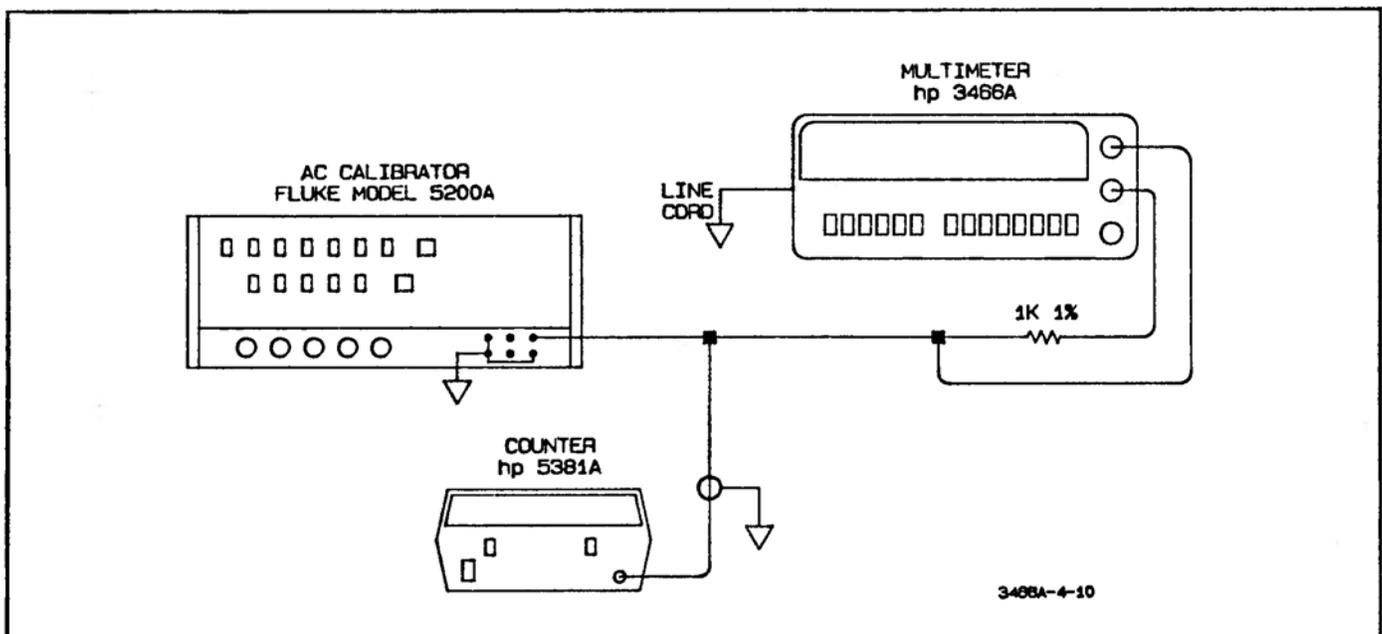

Figure 4-10. AC Common Mode Rejection Test
b. Connect a 1k ohm resistor between the 3466A's V and COM input terminals (see Figure 4-10). Note the reading on the display.
c. Set the AC Calibrator for a 10V rms at 50Hz output. Then connect the 3466A to the test equipment, as shown in Figure 4-10. Make sure the 1k ohm resistor is still connected to the 3466A input terminals and that the power line is grounded (see Figure 4-10).